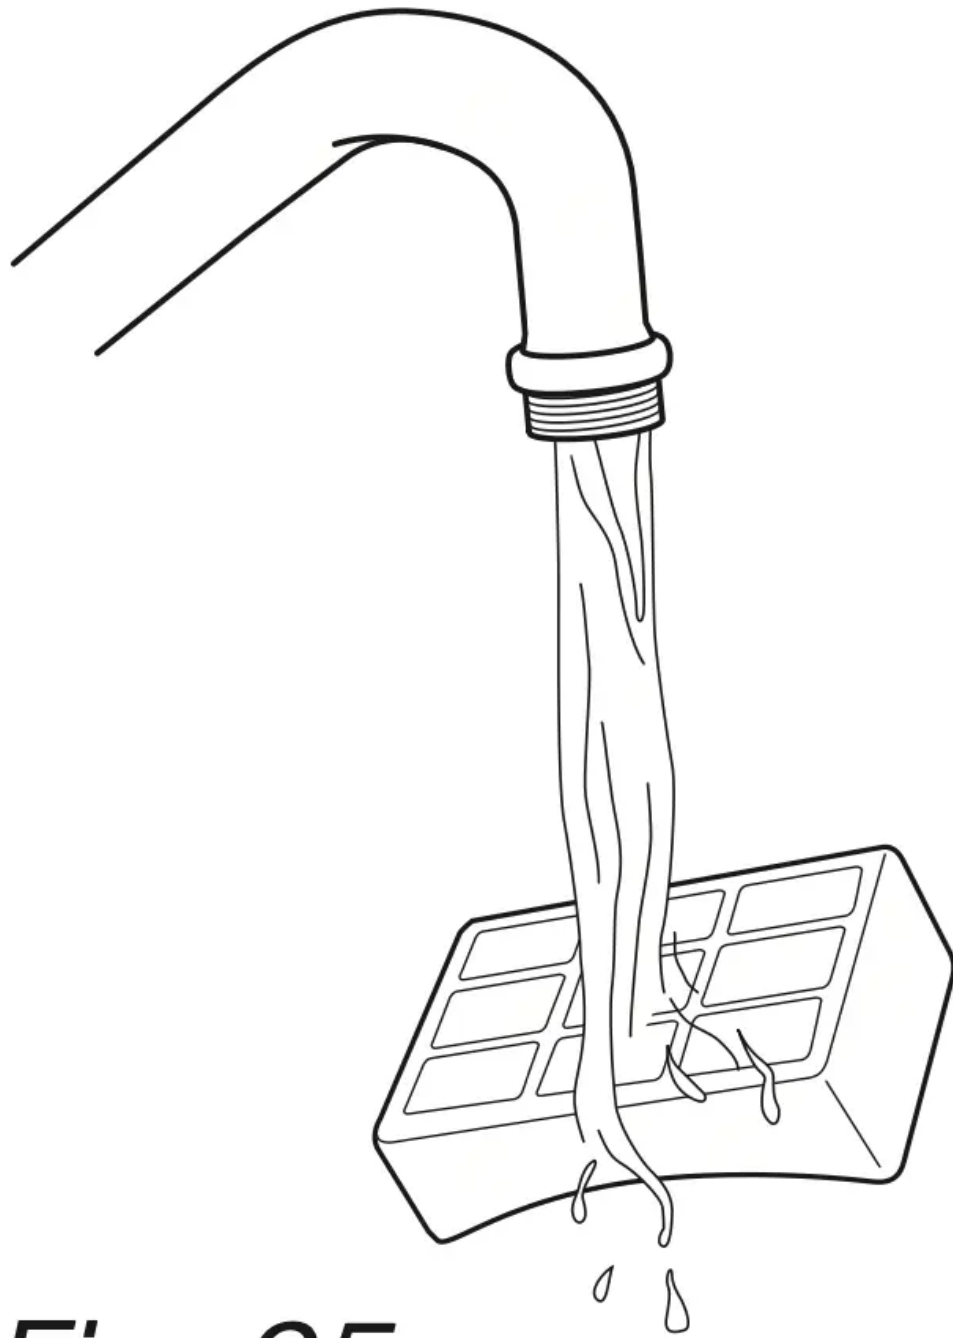

Fig. 25
4. Wash the filter under the tap using lukewarm water with the dirty side face down until the water runs clear. (Fig. 25)